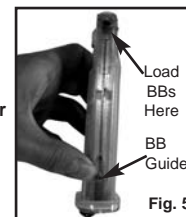

Fig. 5
- Locate the BB guide (Fig.5) on the front of the clip. Pull the BB guide down and to the left until it locks into place.